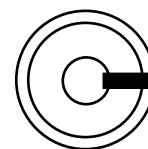

FIGURE 10
4. Turn the key clockwise to the “On” position. See figure 10.